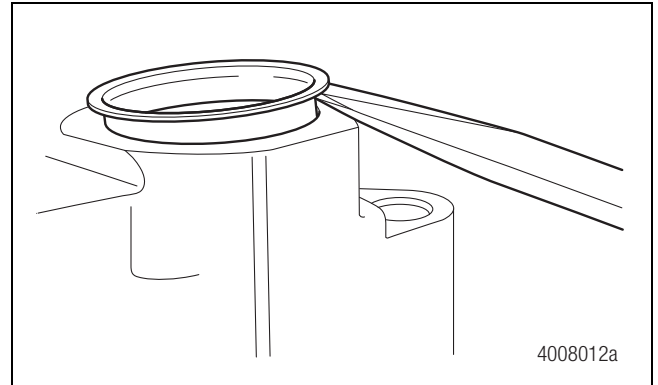

Figure 6.32
1. Remove the slide pin boot retainer from the bushing bore. Figure 6.32.